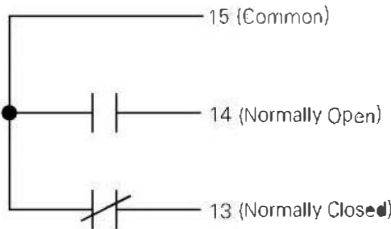

Figure 12. BellAlarm-Alarm Only connections on the right terminal block. The contacts are shown in the reset state.
The Bell Alarm-Alarm Only provides normally open (NO) and normally closed (NC) outputs available at the terminal block on the right side of the breaker, as illustrated in Figure 12. The outputs change state whenever a breaker trip occurs. This trip can be caused by an over current condition detected by the Trip Unit. This trip can also be generated by the Shunt Trip or Undervoltage Release, if installed with a MicroVersa Trip Plus™ or MicroVersaTrip PMM Trip Unit, and if the appropriate DIP switches have been set on the back of the Trip Unit (see Section 3-8, Accessory Configuration at the Trip Unit).